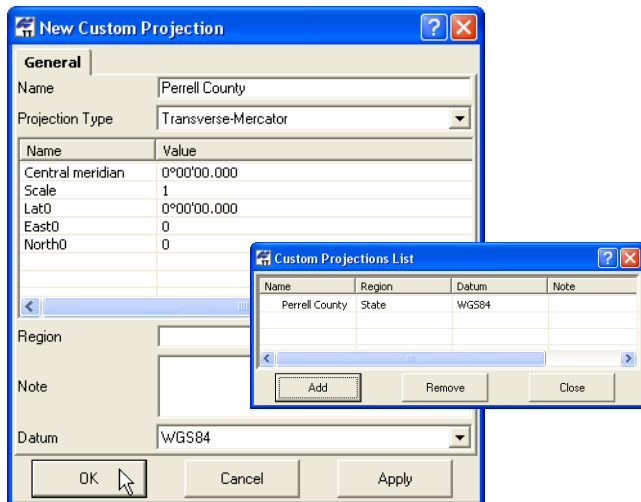

Figure 2-20. New Custom Projection
3. On the **New Custom Projection** dialog box, enter the following information and click **OK** (Figure 2-20 on page 2-13):